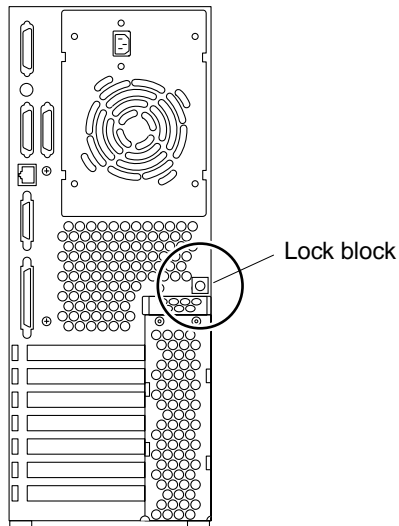

FIGURE 3-2 Ultra 60 Lock Block Location
1. Use a No. 2 Phillips screwdriver to disconnect the lock block (FIGURE 3-2).